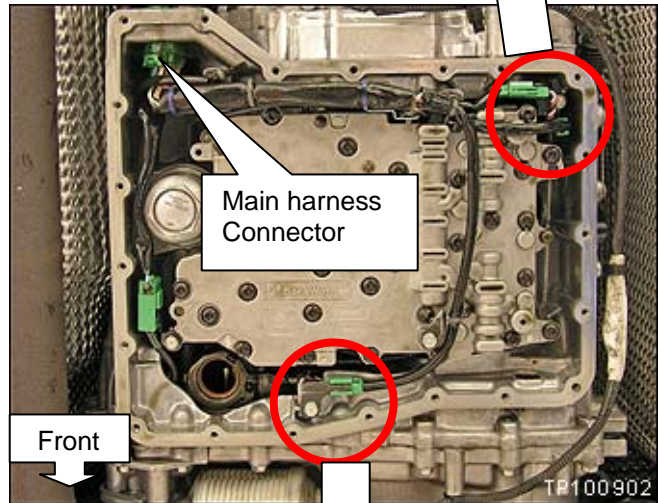

Figure 3
6. Disconnect the main harness connector shown in Figure 3.